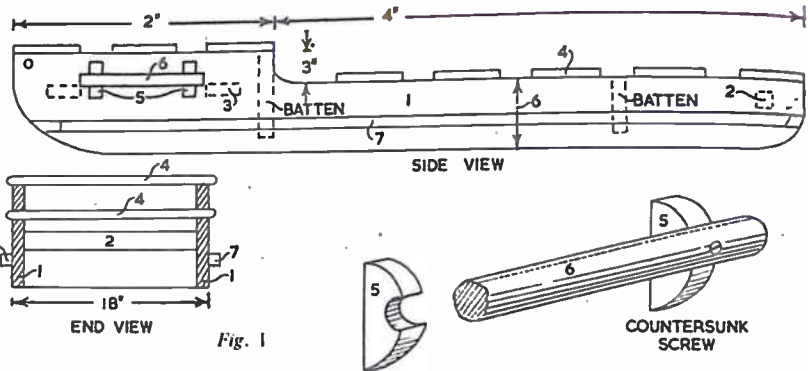
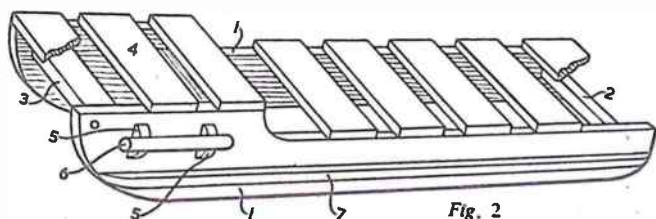

Fig. 1
Fig. 2
shown in Fig. 1, and all necessary measurements are given. The two side pieces (1) are cut from 1in. thick wood and are joined together by piece 2 (1in. square wood) and two pieces 3 (3ins. by 1in. wood). Pieces 2 and 3 are 16ins. long. These pieces should be screwed to the sides using countersunk screws.
The handgrips are made from pieces of 1in. wood (5) and 12in. lengths of 1in. diameter round rod (6) as shown in the detail in Fig. 1. A cut-away diagram, Fig. 2, shows the general construction.